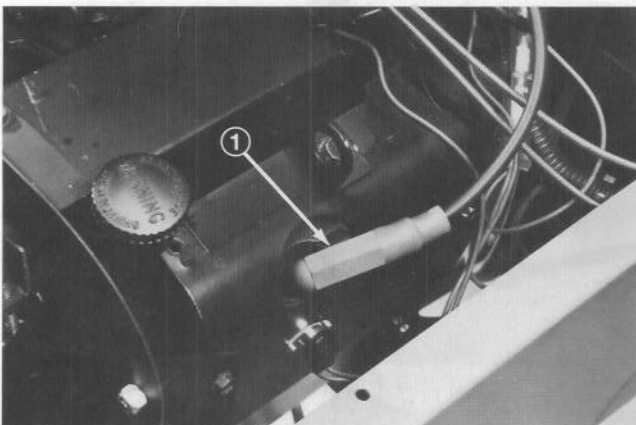

Figure 70
2. Pull high tension wires off spark plugs and remove plugs from cylinder head (Fig. 70).